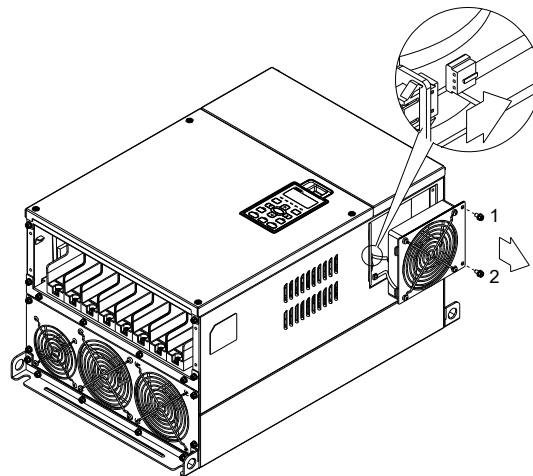

Figure 4
1. Loosen screw 1~2 (figure 4) and disconnect fan power and pull out the fan. (As shown in the enlarged picture 3) Screw1~2 Torque: 24~26 kgf-cm / [20.8~22.6 lb-in] / [2.4~2.5 Nm]